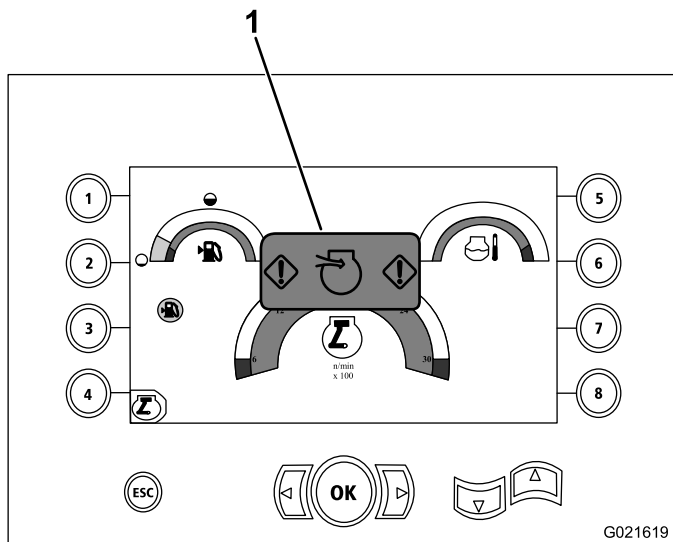

Figure 113
2. Check the restricted, air-cleaner indicator on the display screen as shown in Figure 113.